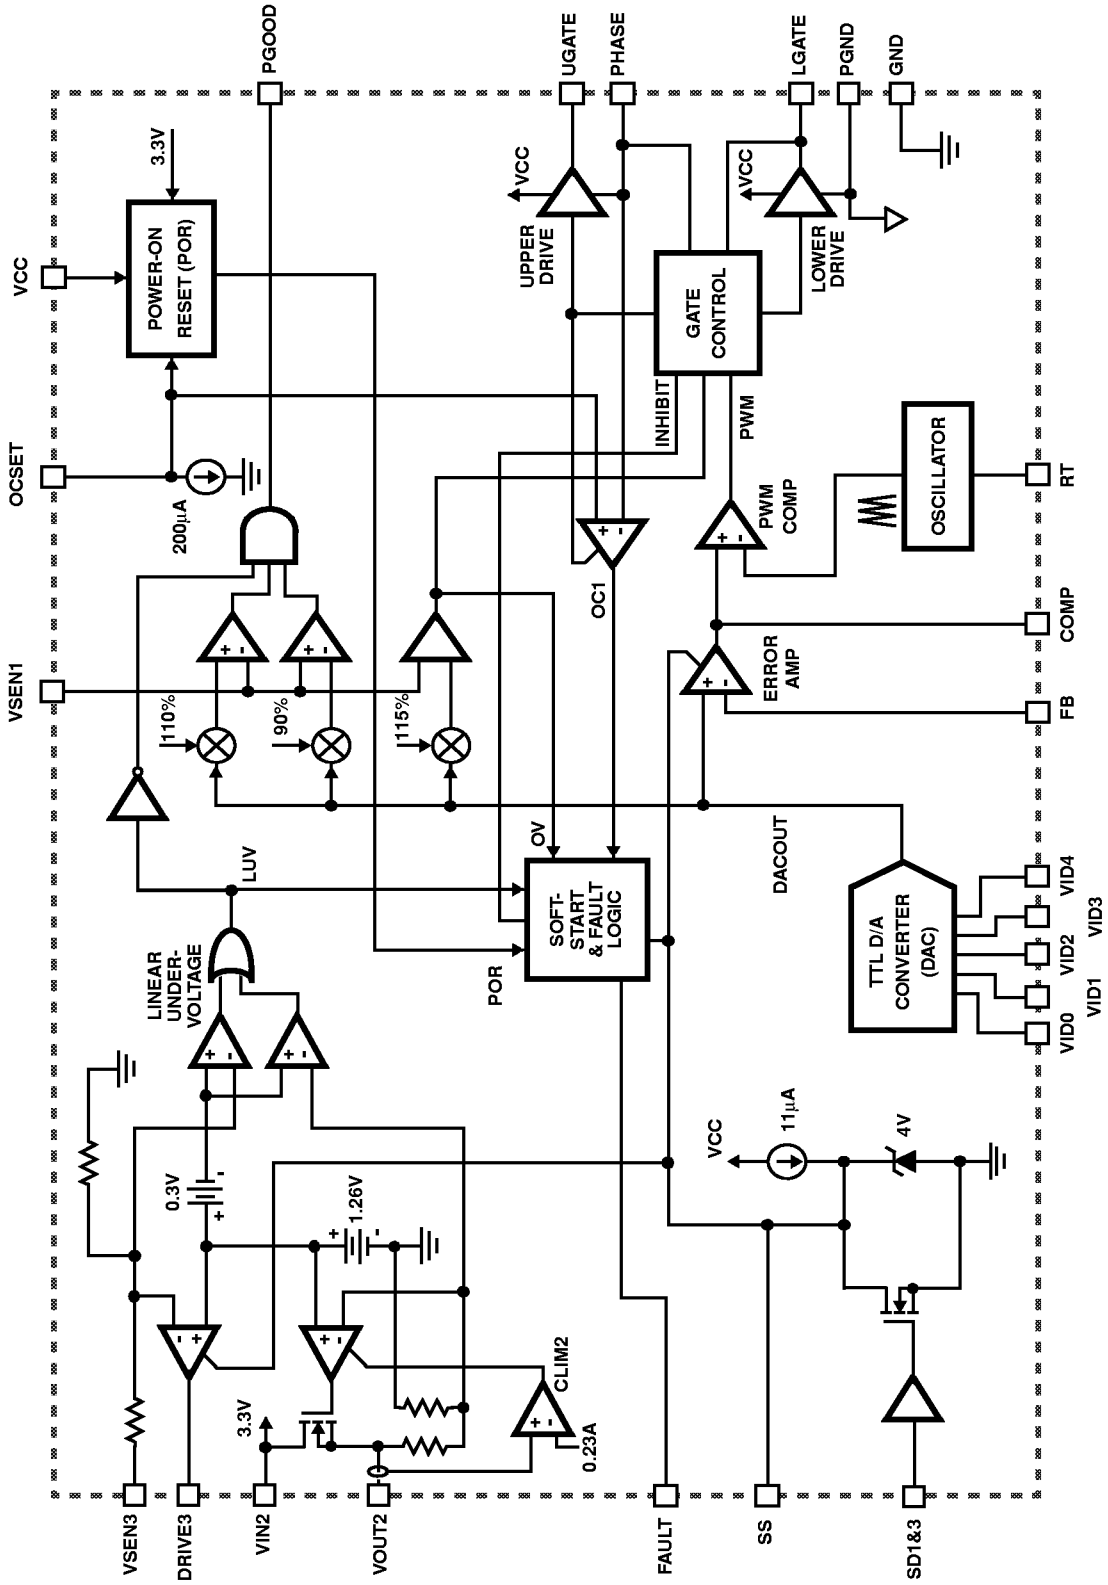

FIGURE 1.
**Electrical Specifications** Recommended Operating Conditions, Unless Otherwise Noted. Refer to Figures 1, 2 and 3
**Electrical Specifications** Recommended Operating Conditions, Unless Otherwise Noted. Refer to Figures 1, 2 and 3 (Continued)